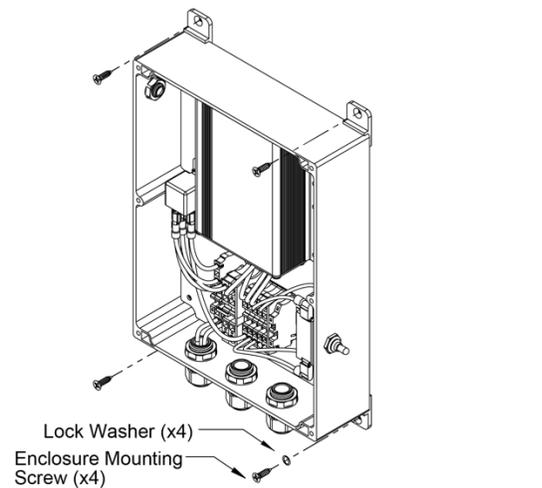

FIGURE 7
5. Mount the unit to the wall vertically using 4 of the self-tapping screws (pointed end) and lock washers. (Figure 7)